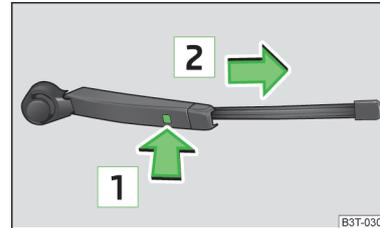

Fig. 198
- Hold the upper part of the wiper arm and unlock the securing mechanism **1** » Fig. 198.